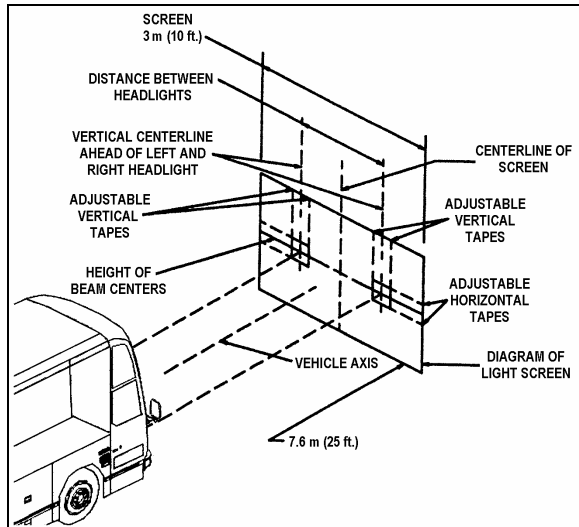

FIGURE 34: ALIGNMENT OF HEADLIGHT AIMING SCREEN 06502
- 3. The headlight centerlines shall be spaced either side of the fixed centerline on the screen by $\frac{1}{2}$ the lateral distance between the light source centers of the pertinent headlights. The horizontal tapes should be located on the screen at the upper and lower limits called for in the specification with reference to the height of beam centers and the plane on which the vehicle rests, not the floor on which the screen rests (Fig. 34).